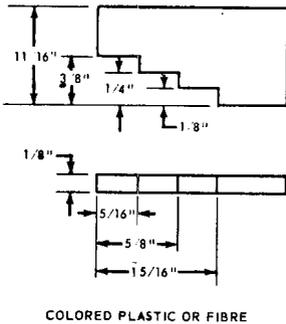
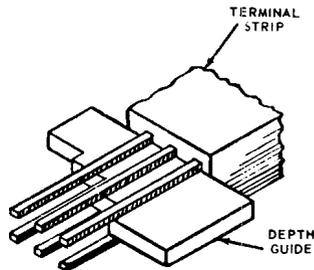

FIGURE 26. Depth Guide for Soldered Connections on Terminal Strips
FIGURE 27. Method of Using Depth Guide for Soldered Connections on Terminal Strips
- d. Where it is not practical to apply solderless wire wrapped connections on terminal strips, the soldering operation can be facilitated if the wrapping tool is not placed on the terminal as far as it will go. A depth guide (as shown in Figure 26 and used as illustrated in Figure 27) will position the wrapping tool to leave sufficient space for three connections of three turns each. After the first horizontal row of connections has been made on a group of terminal strips, the remaining terminals can be gauged by eye rather than repositioning the guide on each succeeding row of terminals.